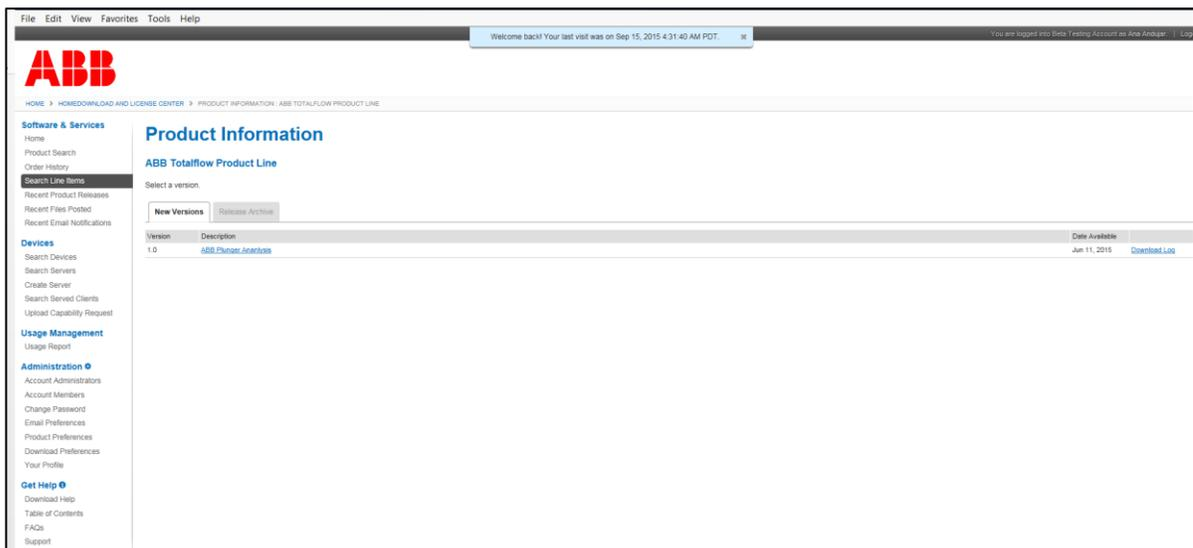

Figure 7: Customer portal home screen
- 1) On the customer portal home page (Figure 7), under the Product Information **New Versions** tab, click the **ABB Plunger Analysis** link to navigate to the product download page.